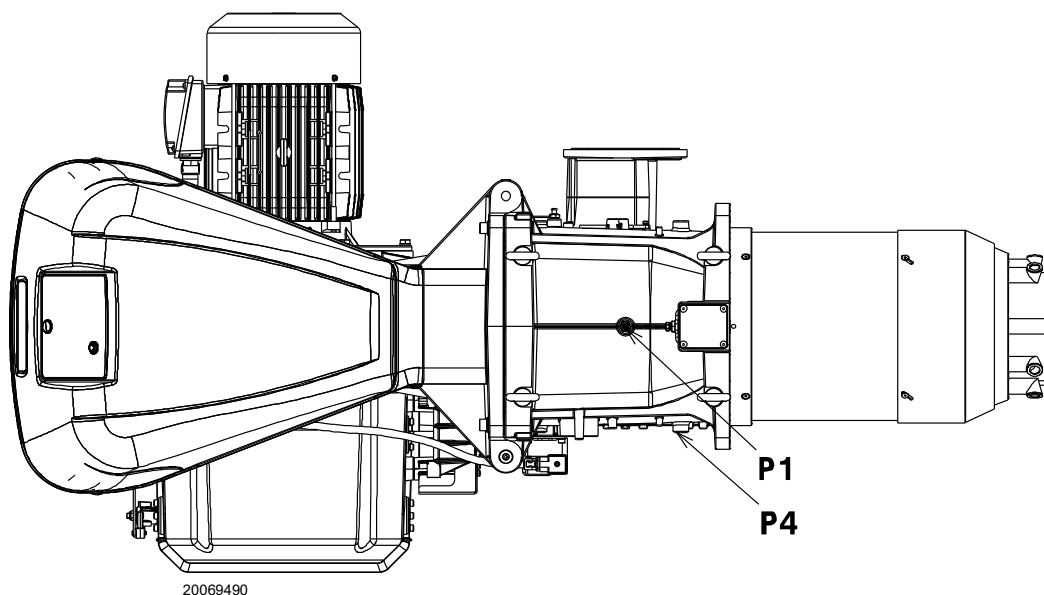

Fig. 19
Gas pressure measured at the test point P1)(Fig. 19), with:
- subtract the combustion chamber pressure from the gas pressure measured at test point P1)(Fig. 19).
$$\begin{aligned} \text{Gas pressure at test point P1)(Fig. 19)} &= 25.0 \text{ mbar} \\ \text{Pressure in combustion chamber} &= 5 \text{ mbar} \\ 25.0 - 5 &= 20.0 \text{ mbar} \end{aligned}$$
To calculate the required gas pressure at test point P1)(Fig. 19), set the MAX output required from the burner operation:
- Read, on the right (column 1), the pressure at the test point P1)(Fig. 19).
Pressure required at test point P1)(Fig. 19).